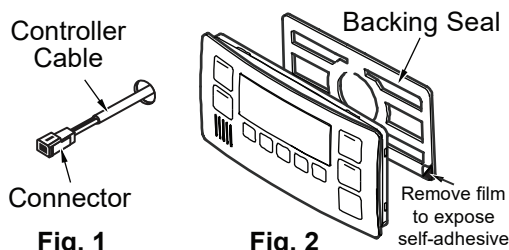

Fig. 1
3. When running cable through the access hole ensure the connector end of the cable is located nearest to the controller (Fig. 1).